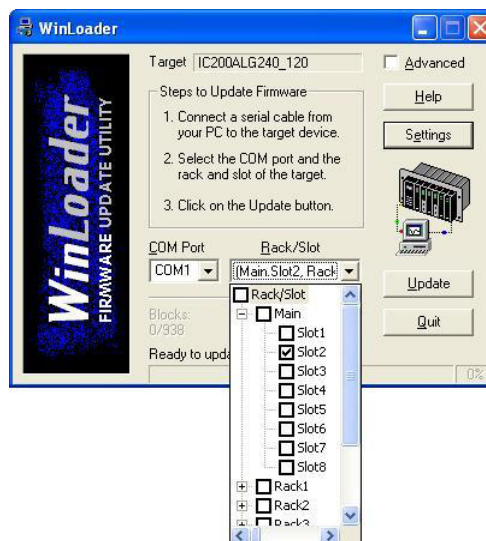

Figure 44: Rack/Slot Selection in WinLoader
8. Select the rack and slot location of the target module (Figure 44) by clicking the Rack/Slot drop-down box.
The illustration in Figure 44 shows that Slot 2 in the Main rack has been selected. Do not select more than one slot – VersaMax ENIU modules do not support multiple upgrade targets in one session. Note that the text displayed in the Target box will depend on the target module and its firmware version.